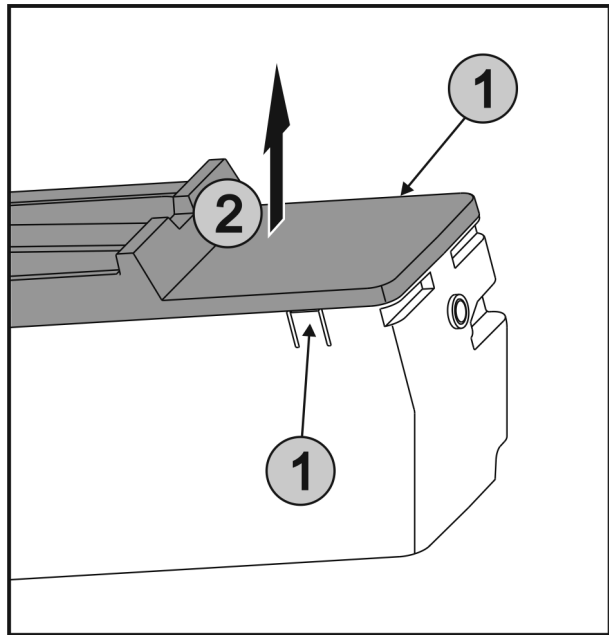

Fig. 56
- ▶ Press the lugs Fig. 56 (1) on both sides of the EasyTwist-Ice simultaneously and take off the cover Fig. 56 (2) upwards.